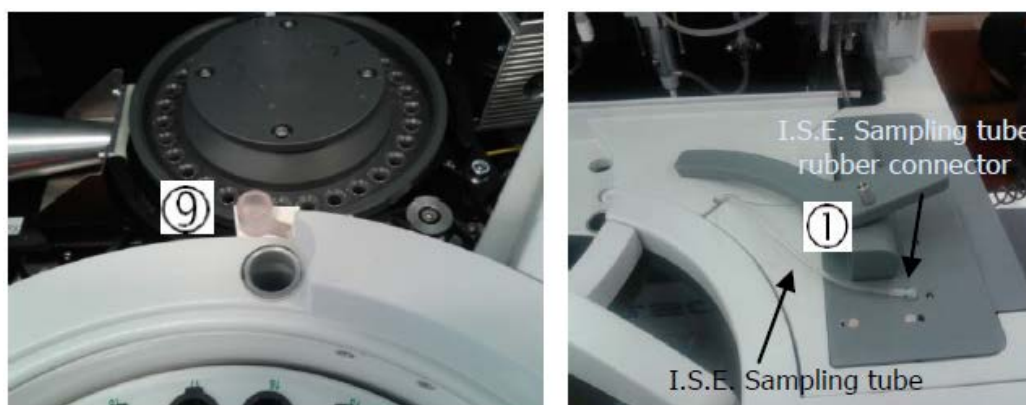

Figure 11-2
To replace the sampling tube, remove the cuvettes cover and the sampling tube cover by unscrewing the thumb-screw and lifting it upwards freeing it from the retaining magnets (ref. 1 in Figure 11-1). Then detach the sampling tube from its rubber connector to the I.S.E. panel (Figure 11-2) and remove the funnel with the tube (ref. 9 in Figure 11-2).